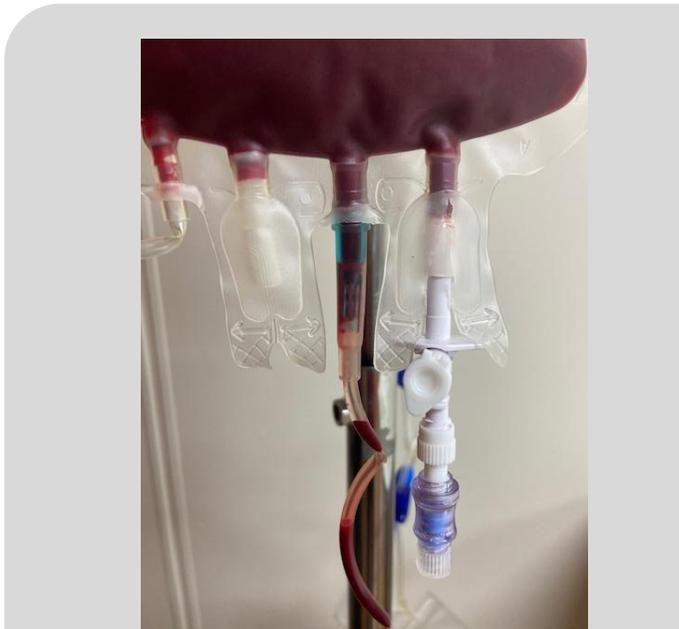

Fig. 4
- Insert the spike into the blood component port with a firm twisting motion. Do not stop until the needle free valve is inserted to the hilt (Fig.4).